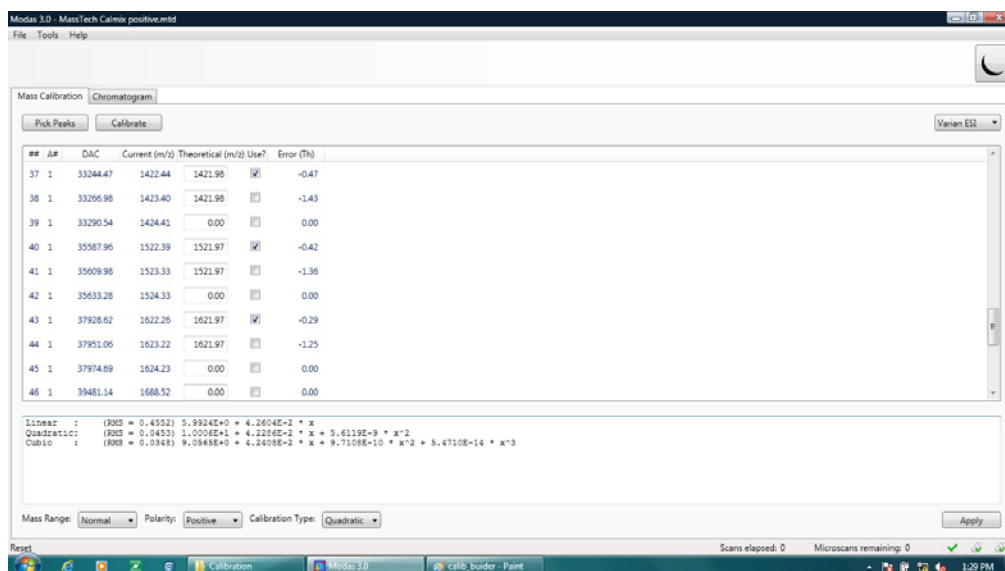
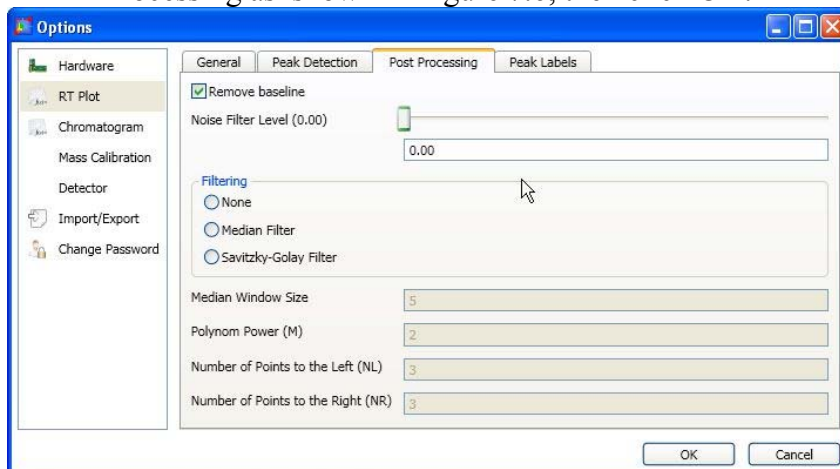

Figure 7.5. The calibration values are calculated.
Figure 7.6. Setting Noise Filter Level to zero.
Once finished with peak selection, click “Calibrate” button; the newly calculated calibrations will be seen below the table (see Figure 7.5).
As shown in Figure 7.5, three types of calibration curves are calculated: linear, quadratic, and cubic. Any of the calibrations can be used by MODAS. Note: linear calibration provides the RMS error of 0.455 Th across the spectrum, while the quadratic RMS is ten times more precise. The complex cubic approximation provides similar result. Typically the quadratic approximation provides a more accurate mass compared with a linear function, while cubic gives no essential advantage. It is recommended selecting the calibration type: “**Quadratic**”.
Finally, choose mass range (either “Normal” or “Low”), polarity (“**Positive**”/“**Negative**”), and calibration type (it is recommended to use the “**Quadratic**” function). After the user clicks “**Apply**” (Figure 7.5), the new calibration is saved and is effective for all users and for all further MODAS sessions.
3. Set Noise Filter Level to zero. Go to Tools->Options>RT Plot>Post Processing as shown in Figure 7.6, then click OK:
- Stepwise increase the multiplier voltage (Figure 7.6) from -1.8kV, step 100V, acquiring the spectrum at each step, until the “dark count” spikes level in the range of 100...1000 is achieved. The typical spectrum is shown in Figure 7.5. This is the adjusted value for the Multiplier voltage. DO NOT EXCEED the multiplier voltage above - 2.5kV. If the noise level at -2.5kV is still below 100, it is an indication that the detector needs to be replaced.
- Save the adjusted multiplier voltage as a default value. Go to Tools->Options->Detector dialog (Figure 7.6). Set the adjusted multiplier value in the appropriate field. Click the **OK** button. Multiplier voltage is saved as default.